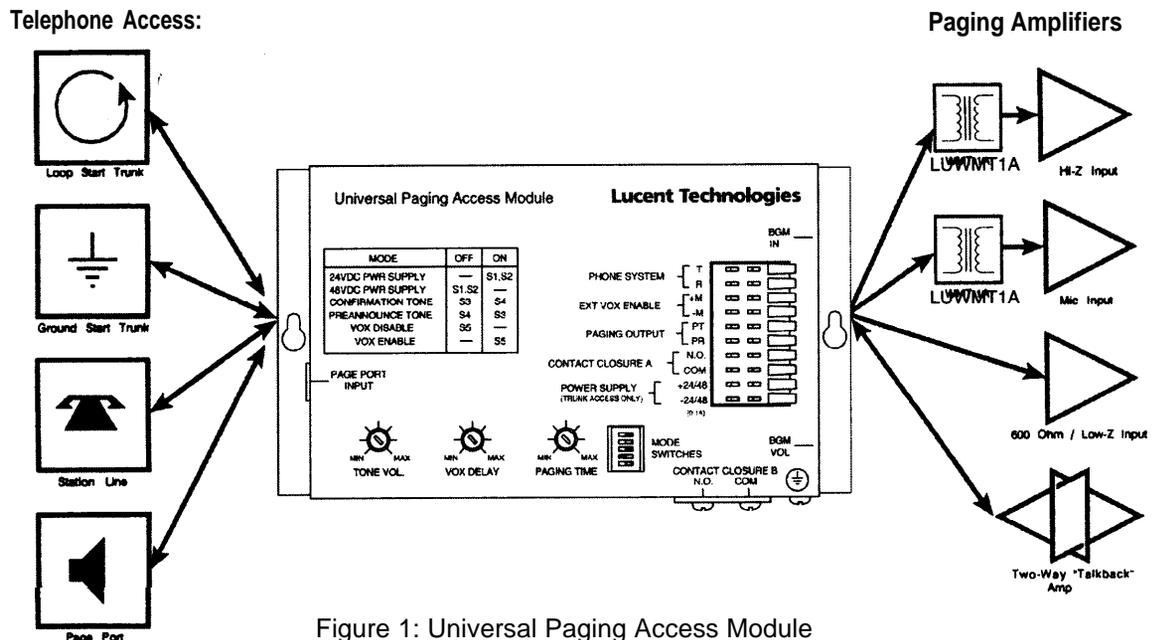

Figure 1: Universal Paging Access Module
The UPAM Universal Paging Access Module is designed to provide telephone access to most commonly available paging systems. It works with PBX loop, ground start trunk ports, and station ports and is compatible with the full range of currently available telephone equipment, i.e., PBX, stand-alone 1A2-Key, Electronic Key, Hybrid Electronic Key, or CO and Centrex. (see Figure 1)
- MODE Switches (on front of unit)** A set of 5 MODE switches (S1 through S5, see Figure 1 on page 5) is included to set the power supply voltage, confirmation or pre-announce tone, and VOX operation. These switches are accessible through an opening in the front cover and can be moved with a pointed tool, such as the tip of a ballpoint pen. Set the switches as described in the Specific Instructions (pages 9 - 18).